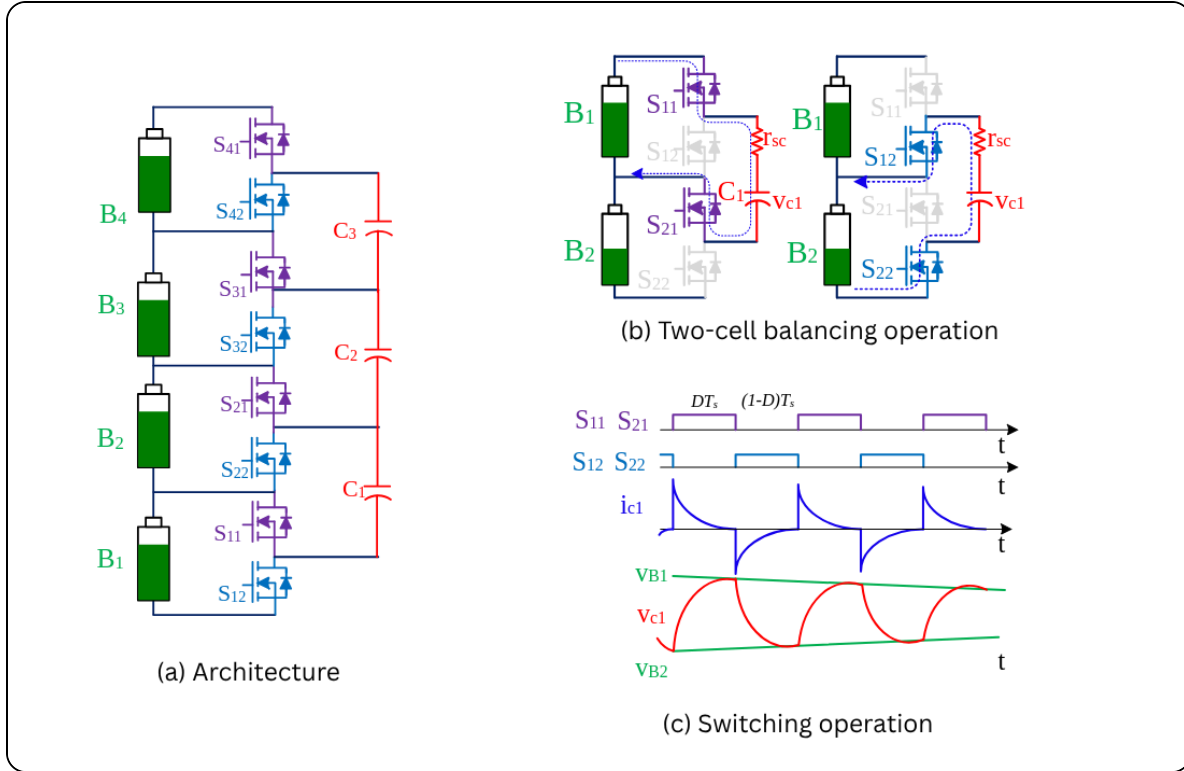

Figure 6. Ladder switched capacitor balancing topologies
The basic architecture of the ladder switched capacitor (SC) is shown in Figure 6(a). The corresponding equivalent circuit for the two-cell balancing model is shown in Figure 6(b). Consider the voltage imbalance assumption “ $V_{B1} > V_{B2}$ ”, all PWMs for the half-bridge top (S_{1l} , S_{2l}) and bottom
reverse the PWMs action in the next half. The SC gets a charge from Cell-1 during the first half-cycle, and the same amount discharges to Cell-2 in the next half-cycle. The steady-state waveform of the switched capacitor under charge balancing operation is shown in Figure 6(c).